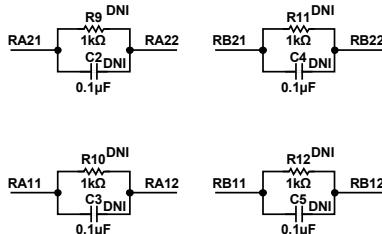

Figure 8. EVAL-ADAQ8088EBZ Feedback Resistor/Capacitor Placeholders
4. On the EVAL-ADAQ8088EBZ, confirm that the jumpers are installed as shown in Figure 8.